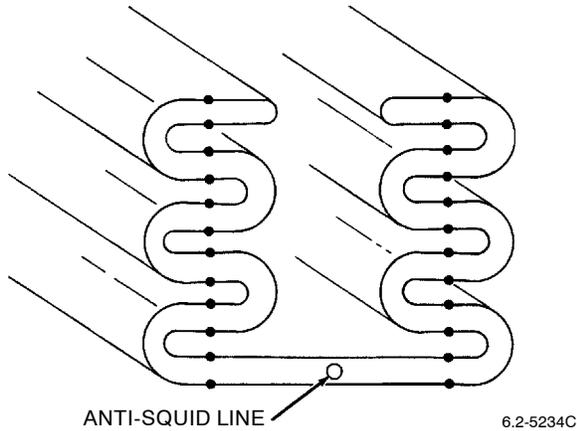

Figure 25. S-Fold Helper's Side of Canopy
c. Repeat same operation for helper's side. Ensure that anti-squid line is positioned between two groups of folds and suspension lines. Check that anti-squid lines are properly routed between two groups of suspension lines (Figure 25). (QA)